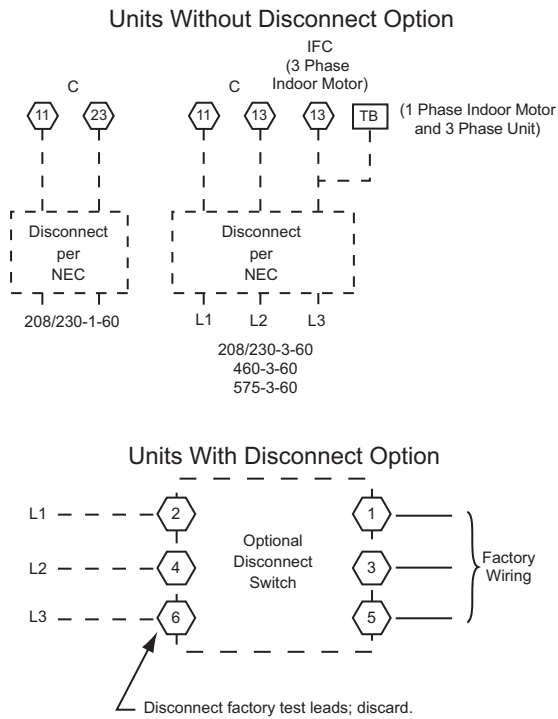

Fig. 20 — Power Wiring Connections
The field power wires are connected to the unit at line-side pressure lugs on compressor contactor C and indoor fan contactor IFC (see wiring diagram label for control box component arrangement) or at factory-installed option non-fused disconnect switch. Maximum wire size is #2ga AWG (copper only). See Fig. 20 and unit label diagram for field power wiring connections.
The factory-installed optional disconnect switch is located in a weatherproof enclosure located under the main control box. The manual switch handle is accessible through an opening in the access panel. Discard the factory test leads (see Fig. 20).
All field wiring must comply with NEC and all local codes. Size wire based on MCA (Minimum Circuit Amps) on the unit informative plate. See Fig. 20 and the unit label diagram for power wiring connections to the unit power terminal blocks and equipment ground. Maximum wire size is #2ga AWG (copper only) per pole.
2. Install power lines to terminal connections as shown in Fig. 20 on page 14.